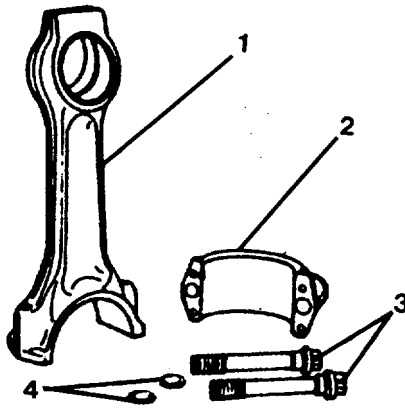

FIGURE 4-66. Connecting Rod Disassembly.
- (1) Remove capscrews (3, FIG. 4-66), washers (4) and cap (2) from connecting rod (1).
- (2) Use solvent to clean the parts.
- (3) Inspect rod and cap for fretting damage. The rod and cap must be replaced as an assembly if fretting damage is visible on either piece.
- (4) Check the threads of the connecting rod capscrews for damage. Check the capscrew head for ,cracks.
(7) Lubricate the connecting rod capscrews (3, FIG. 4-66) with clean engine lube oil.
(8) Assemble the rod (1), cap (2), washers (4) and capscrews (3). Tighten capscrews in the following sequence: